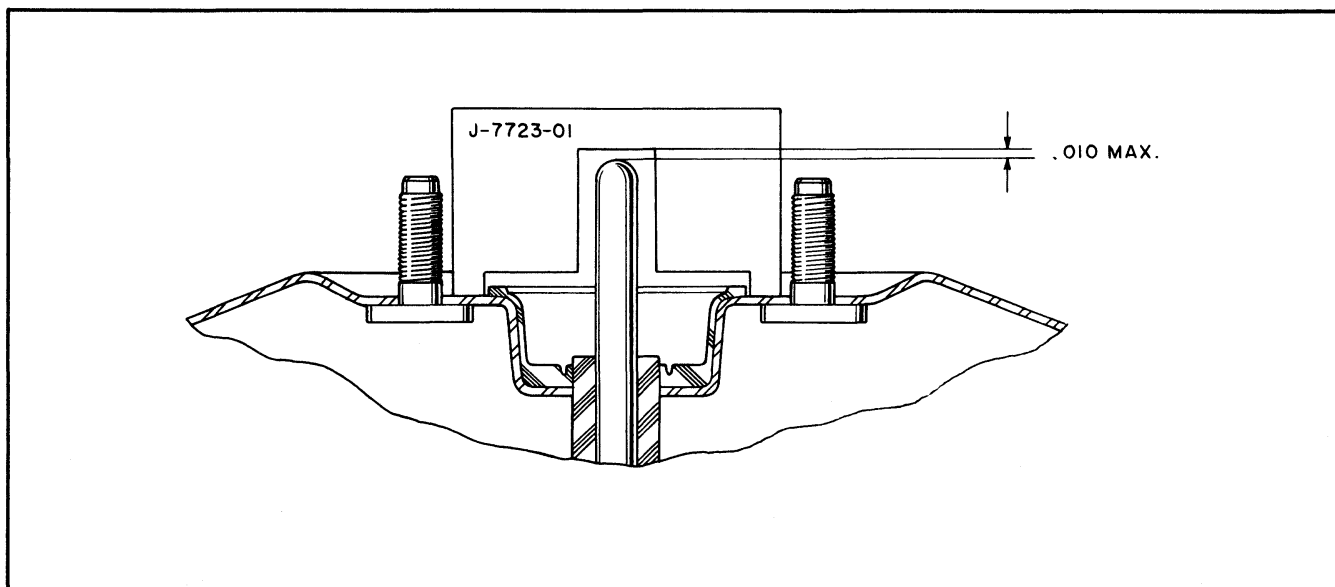

Fig. 5A-13 Checking Master Cylinder Push Rod Adjustment
2. Place gauge J-7723 over piston rod so that it fits between the two studs on front housing (Fig. 5A-13). It should be parallel to studs and resting on surface of housing. Cutout portion of gauge should never be lower than end of piston rod, and gap between cutout in gauge and end of piston rod should never be more than 0.010 inch.